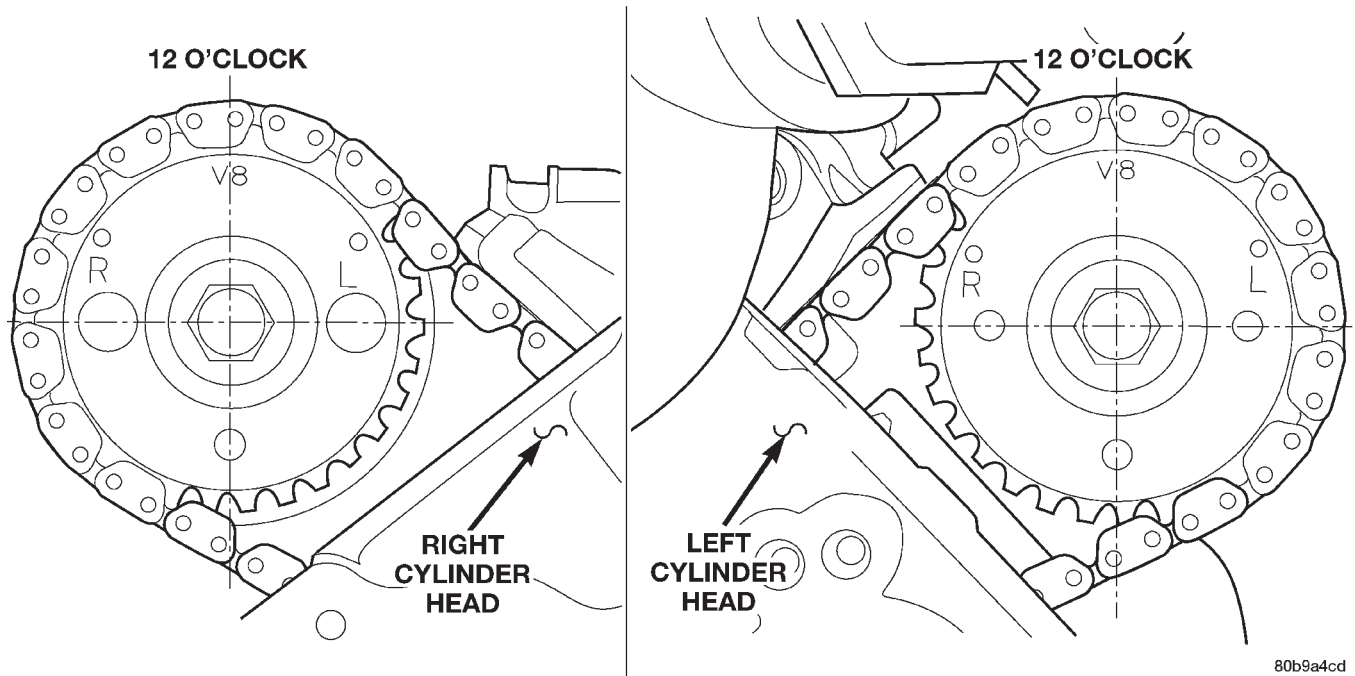

Fig. 87 Timing Chain to Sprocket Alignment
- (5) Torque the camshaft bearing cap retaining bolts to 11 N·m (100 in. lbs.).
- (6) Position the camshaft drive gear into the timing chain aligning the V8 mark between the two marked chain links (Two links marked during removal) (Fig. 87).